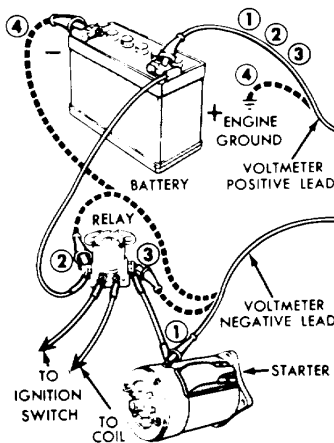

FIG. 2. Starting Cranking Circuit Test
1. With the voltmeter negative lead connected to the starter terminal and the positive lead connected to the battery positive terminal (Figure 2, connection (1)) . 0.5 volt.
2. With the voltmeter negative lead connected to the battery terminal of the starter relay and the positive lead connected to the positive terminal of the battery (Figure 2. connection (2)) . 0.1 volt.
3. With the voltmeter negative lead connected to the starter terminal of the starter relay and the positive lead connected to the positive terminal of the battery (Figure 2, connection (3))...0.3 volt.
4. With the voltmeter negative lead connected to the negative terminal of the battery and the positive lead connected to the engine ground (Figure 2, connection (4)) , 0.1 volt.